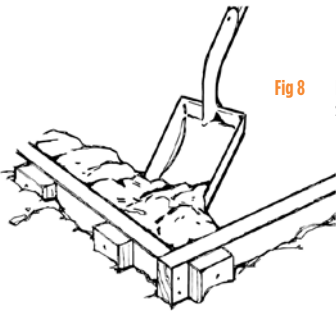

Fig 8 Pour in concrete starting with one end
- Once your concrete has been mixed to the desired consistency, you will need to pour it immediately. Start at one end and spread the mix with a shovel, ensuring that it is tamped well into corners (Fig 8).